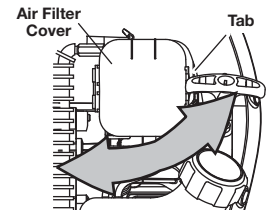

Fig. 5
1. Open the air filter cover and remove the air filter (Fig. 5).
6. Reinstall the air filter cover and press down until it snaps into place (Fig. 5).